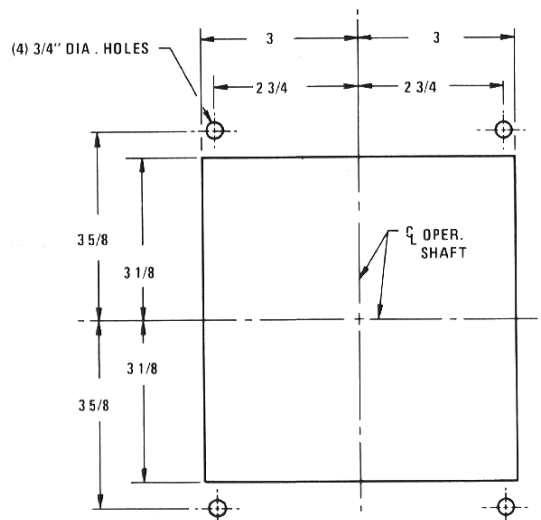

Fig. 16
- b. If it has not already been done, cut opening and drill or punch four 3/4" diameter holes in right side of enclosure per pattern shown in Fig. 16. (This same information appears on direct drive handle Dwg. 422-446).
- g. From rear end of switch, slip insulating sleeve (shown in Fig. 16) over the bus bar and into the recessed area of switch base until roll pin hole of bus bar is in full view at the end of the insulating sleeve. If necessary to loosen bolts of jaw or hinge to allow clearance for this sleeve to completely enter the recessed area, make sure switch is in closed position.